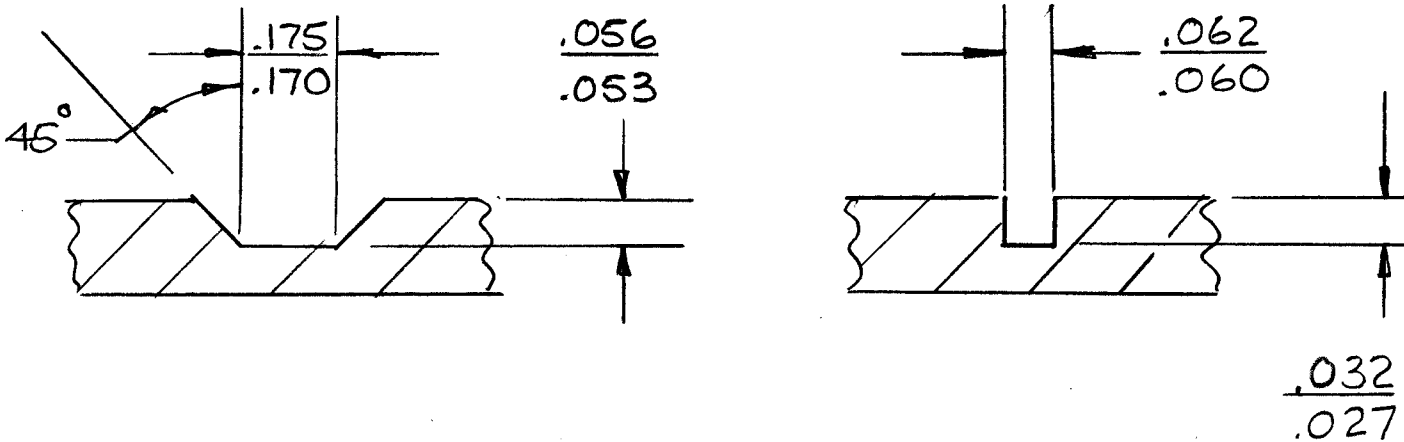

FIG. 2 NEW GROOVE DIMENSIONS
5. Place inner tube in lathe and machine two grooves as shown in Figure 2. Spray machined grooves with dry film lubricant, per MIL-L-8937D.